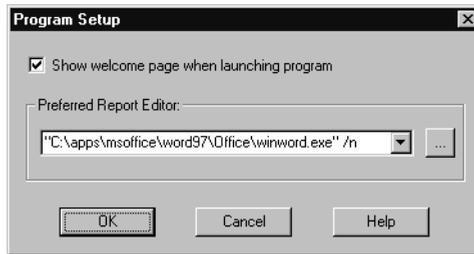

Figure 7.1. Program Setup Dialog Box
1. Select **Program Setup** from the **Tools** menu to open the **Program Setup** dialog box (Figure 7.1).